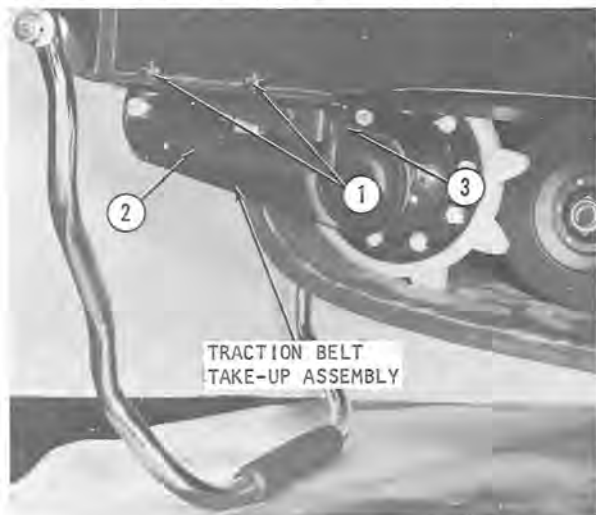

Figure 6
3. If adjustment is necessary, loosen locknuts (1, figure 6) sufficiently to permit movement of belt-adjusting angle (2).
4. If measurement exceeds 1-1/4 inches, turn adjusting screw (3) clockwise to tighten belt tension. If measurement is less than 1 inch, turn adjusting screw (3) counterclockwise to relieve tension. Adjust both sides equally to maintain proper belt alignment.
4. If traction belt is not centered, loosen locknuts (1, figure 6) securing belt-adjusting angle (2) on each side of the sled. Tighten adjusting screw (3) on the side on which the traction belt is closer to the support arm until the track is centered.
5. Check traction-belt tension as described in the previous paragraph and then tighten locknuts (1).
2. Relieve traction-belt tension by loosening adjusting screws (3, figure 6).
4. Remove the right- and left-hand adjusting angle locknuts (1).
4. Relieve traction-belt tension by loosening adjusting screws (3, figure 6).
6. Remove right- and left-hand adjusting-angle locknuts (1).